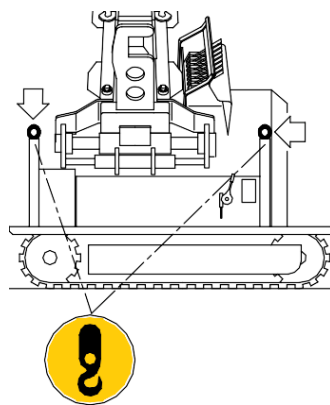

Fig.4 Pile driver anchoring point
- Make sure of using appropriate signals like relative pictograms (representing a hook), like those showed in the figure 4
- Make sure the transporting vehicle is blocked with wedges placed in front and behind every wheel (figure 4)